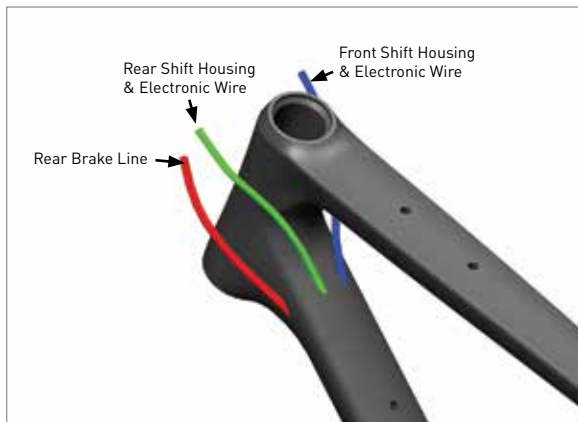

Figure 1
2. If your bike uses a front derailleur, feed the shift housing through the top DRIVESIDE port at the top of the downtube until it comes to the opening in the bottom bracket shell. Turn the housing up into the internal housing stop behind the bottom bracket and feed the shift cable through the stop to the front derailleur (Figs. 1 & 2).
3. Insert the housing for the rear derailleur through the top NON-DRIVESIDE port at the top of the downtube until it comes to the opening in the bottom bracket shell, direct the housing into the drive side chainstay tube and push it until it exits at the rear of the driveside seatstay (Figs. 1, 2, & 3).
4. For brakes, feed the brake housing through the NON-DRIVESIDE port on the side of the downtube until it exits the rear non-driveside chainstay (Figs. 1 & 3).
3. Di2 wiring uses the same cable housing tunnels as mechanical components do. Feed the single wire from the junction box underneath your stem through the NON-DRIVESIDE port at the top of the downtube until it comes to the opening in the bottom bracket shell and can be plugged into the junction box located there (Figs. 1 & 4).